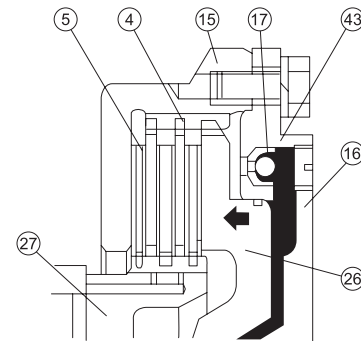

Figure 3-24
When the fifth row of clutch is engaged (see Figure 3-24), the pressure oil from the control valve enters the oil chamber to push piston (26). Meanwhile, the pressure oil also pushes the check valve's steel ball (17), to block the valve seat's orifice, so that the clutch is rapidly engaged.